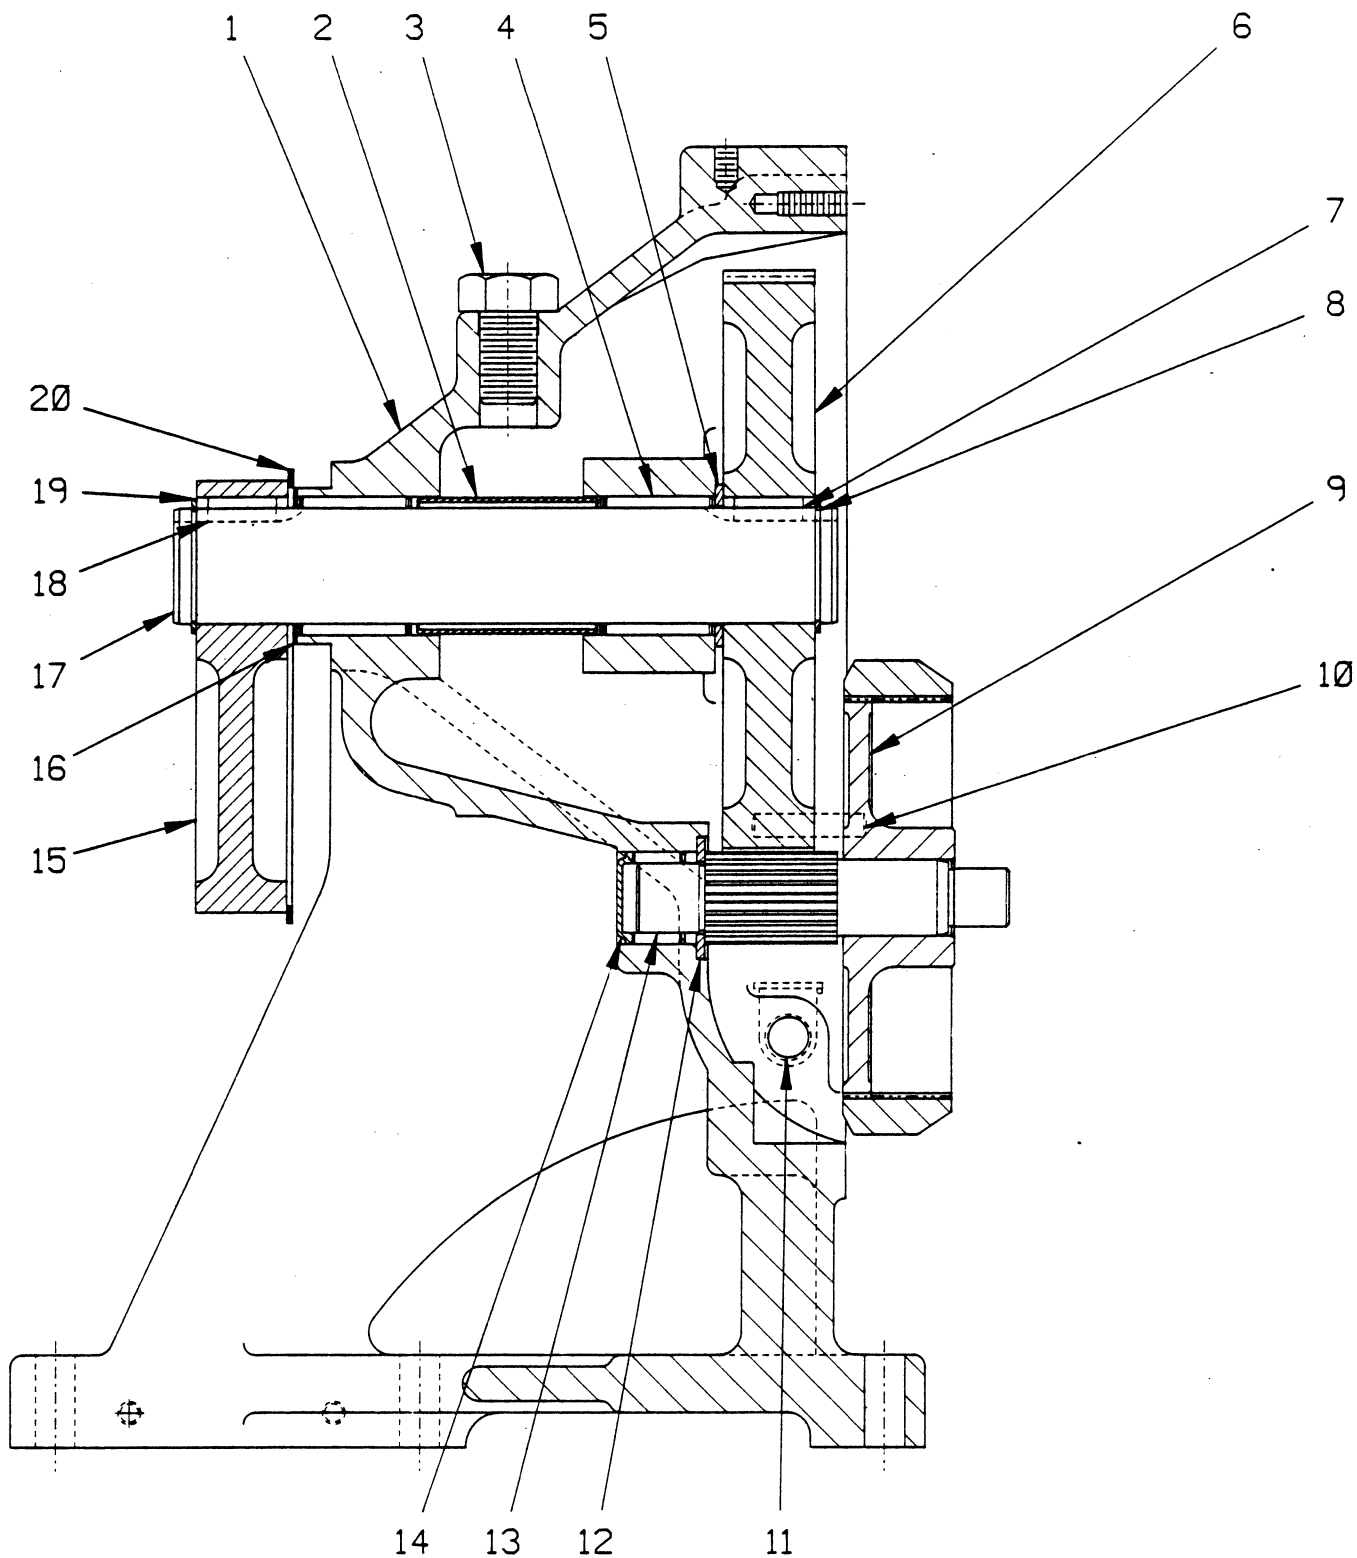

Figure 4. 44161-007 Gearbox Assembly
Remove the retaining ring (6) and slide the plunger rod assembly (23) off the eccentric cam (15, Figure 4).
Before attempting to remove the gearbox assembly (8), drain the lubricant by removing the oil cup (11, Figure 4). Clean and reinstall the oil cup.
(Figure 4)
Gearbox Reassembly**(Figure 4)**